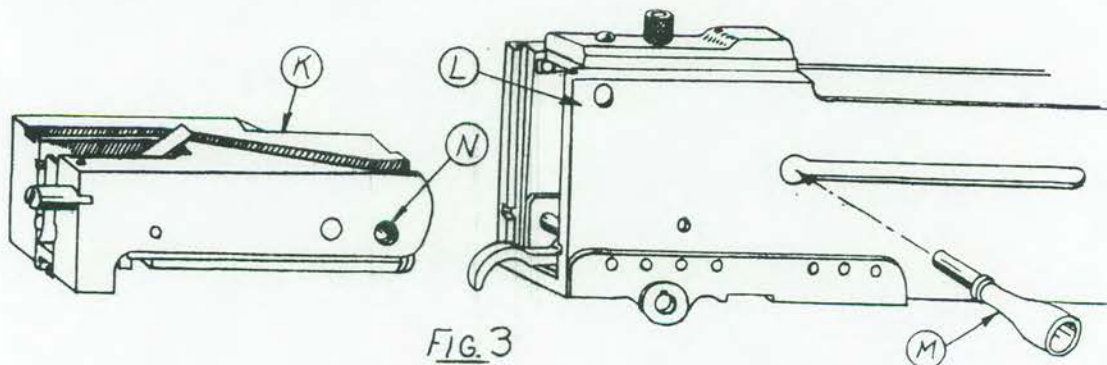

FIG. 3
- 5 SLIDE BOLT (K) INTO CASING (L) AS SHOWN IN FIG. 3. PUT HANDLE (M) THROUGH HOLE IN CASING AND INTO HOLE (N) IN BOLT. SLIDE HANDLE FORWARD.